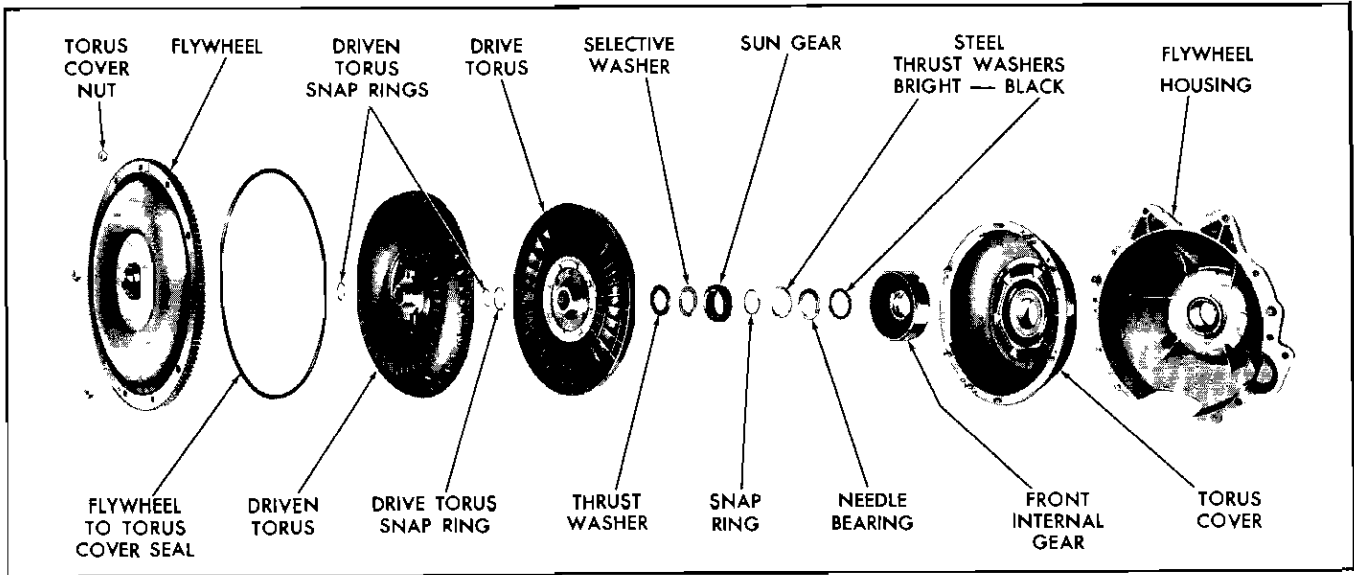

Fig. 170 Flywheel Housing and Torus Parts—Exploded
1. Inspect torus cover hub bushing in center hole of flywheel housing (Fig. 170) to see that it is not worn excessively or damaged. Replace housing if bushing is damaged. Inspect seal and replace if cracked, hard, or damaged.